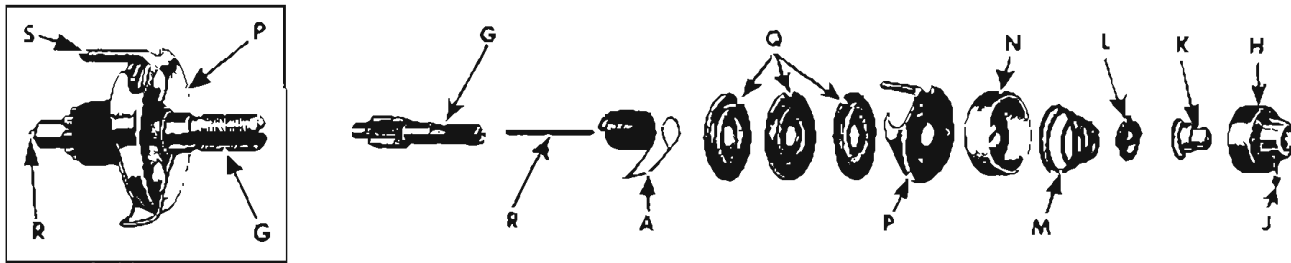

Fig. 35. Exploded View - Needle Thread Tension
### REMOVAL: (See Fig. 35)
**NOTE:** It is not necessary to remove tension stud G from machine. It is shown removed in Fig. 35 to illustrate the complete assembly. See page 8 for instructions on removal of tension assembly as a unit.
1. Make certain that tension releasing pin R is in place as shown in inset, Fig. 35.
4. Align coils of spring with holes in discs and place this assembly on stud G, as shown in inset, Fig. 35. Extension S of thread guard P enters hole provided for it in machine head.
5. Replace indicator N, Fig. 35 with open side facing out and with plus (+) and minus (-) signs at top.